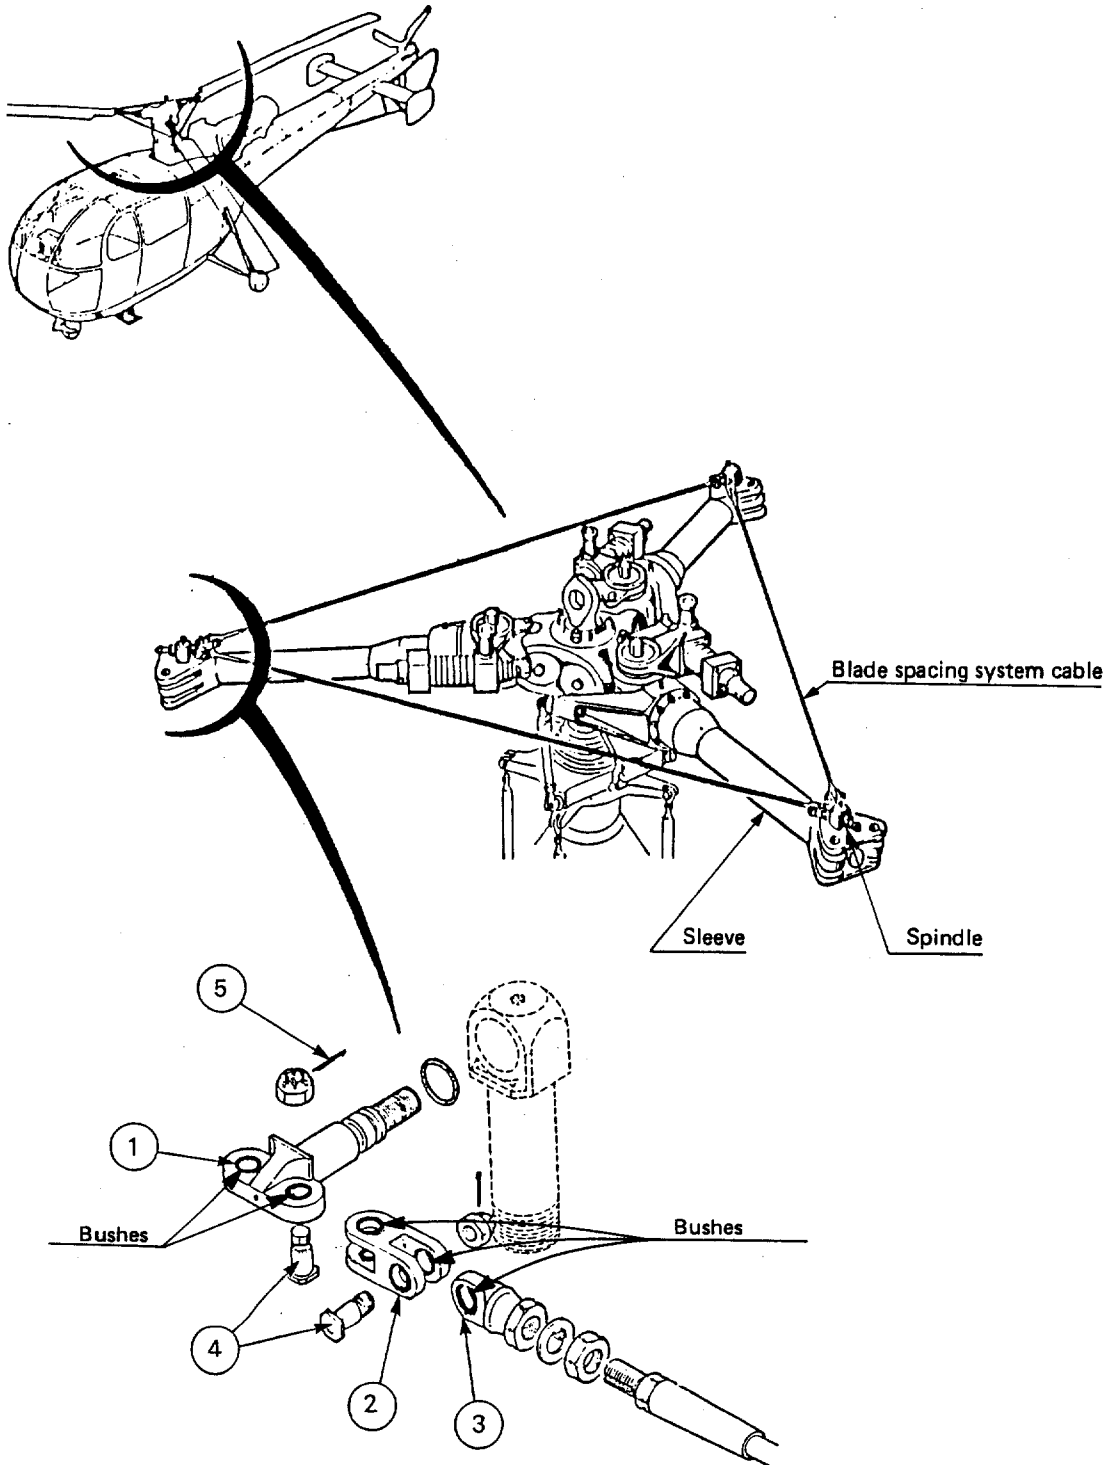

FIGURE 1
(1) Procedure
(2) Checking (Refer to Figure 1)
- Visually check that spindle bushes item 1, shackle bushes item 2 and cable end-fitting bushes item 3 are not broken.